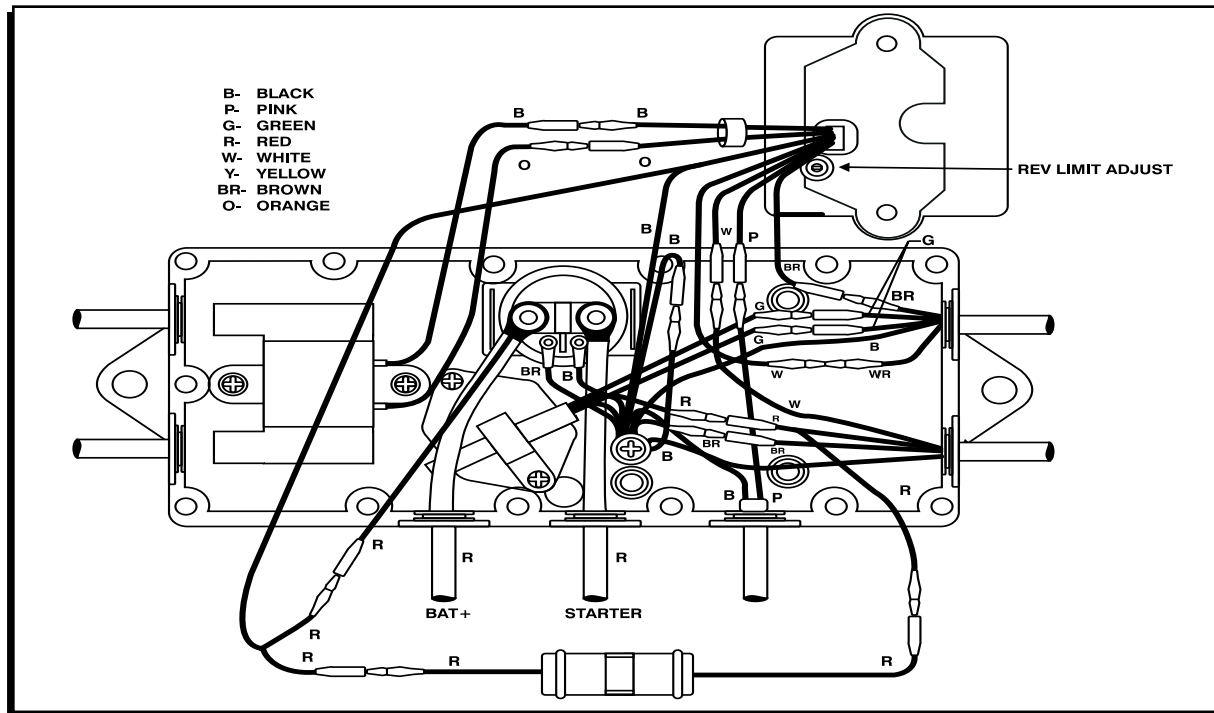

Figure 1 Wiring the MSD Ignition Enhancer.
5. Connect the color coded wires of the MSD Enhancer to the factory wiring harness. You will not be connecting the PINK wire or the WHITE/RED wire to the Enhancer. Refer to Figure 1 for wiring. Make sure all connections are tight and fully seated.